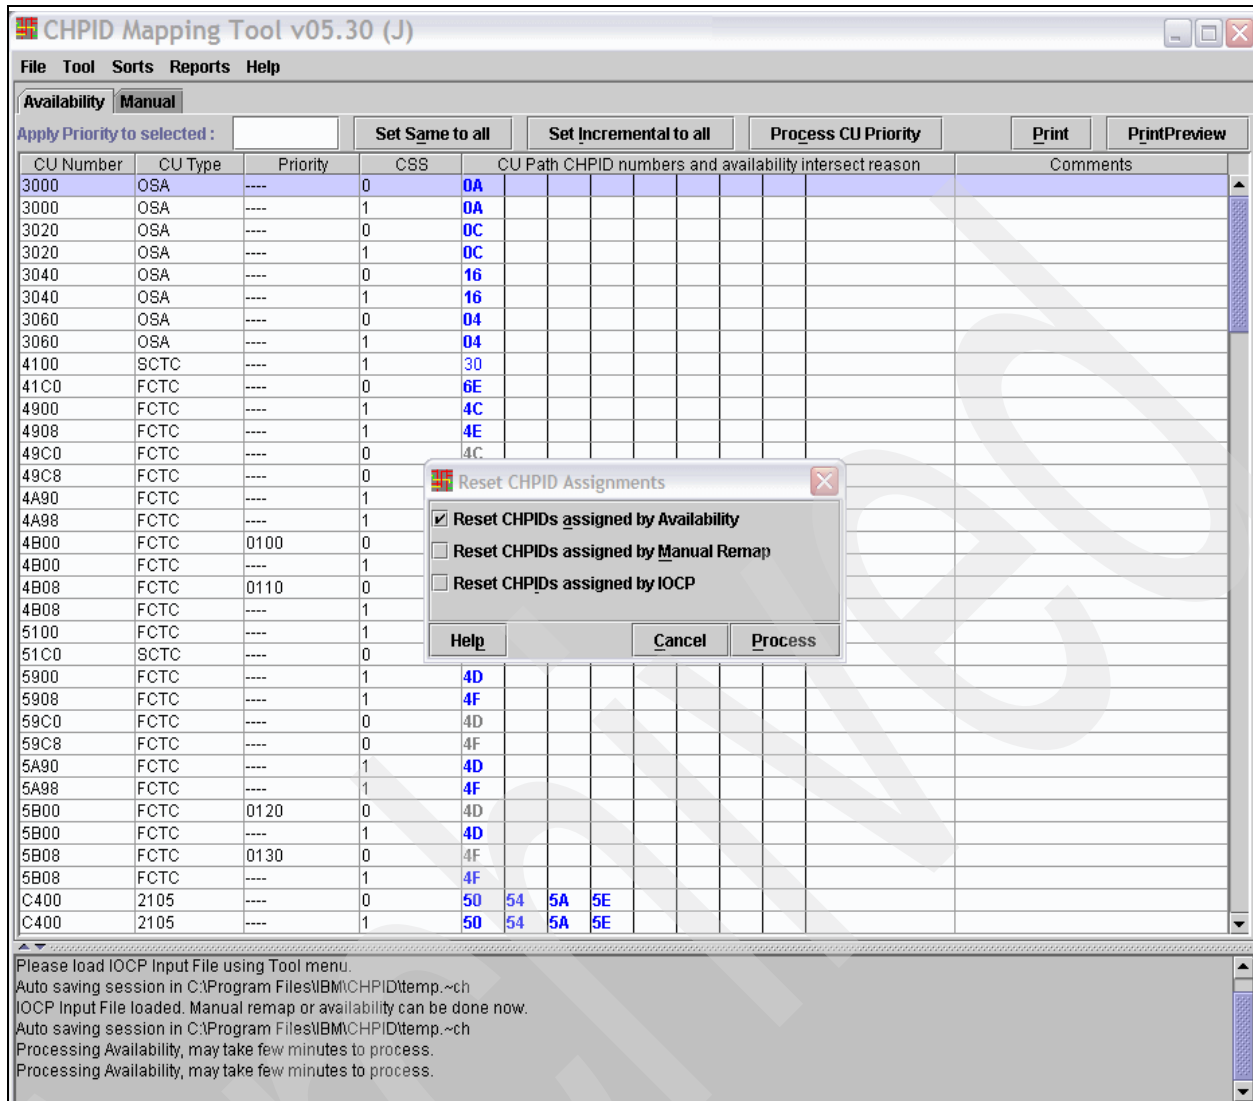

Figure 6-21 CMT - Reset CHPID Assignments by availability
2. Click **Process CU Priority** and a window pops up; see Figure 6-21 on page 281.